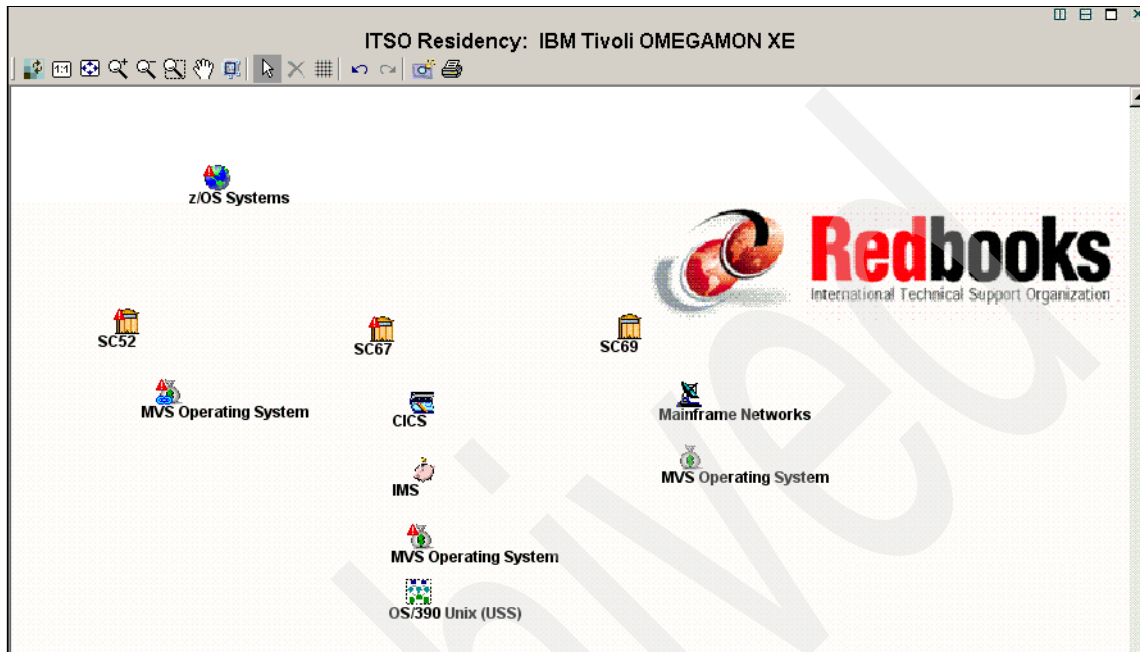

Figure 6-5 Graphic view with link from icon
- The link symbol appears on the icon to indicate that a link exists. See the link on the MVS Operating System icon in Figure 6-5.